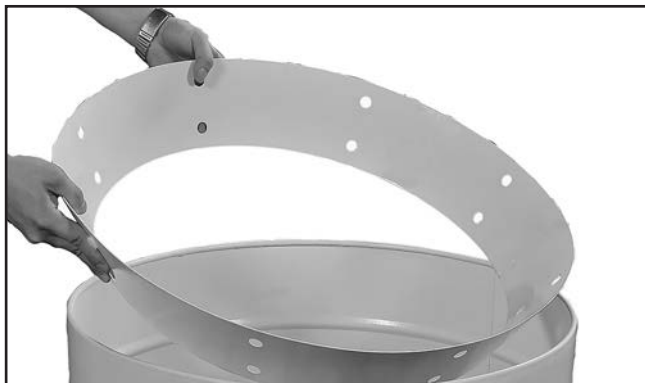

Figure 25. Inserting collection drum vacuum ring.
26. Place collection drum vacuum ring on bottom of collection drum (see **Figure 25**).